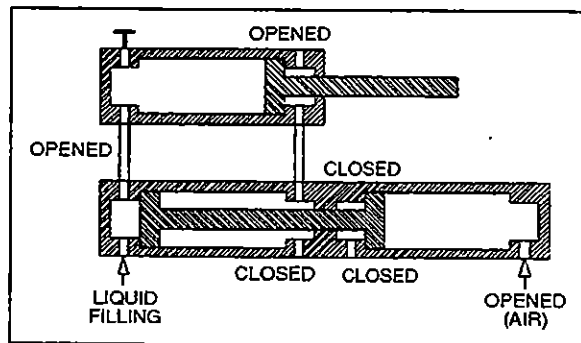

Figure 15
6. Close the L.H. door cylinder drain cock immediately when the liquid flows into the container, then pump until the door be fully opened, without pressurising the system. See figure 15.
7. Close the L.H. cock on the master cylinder. See figure 15.